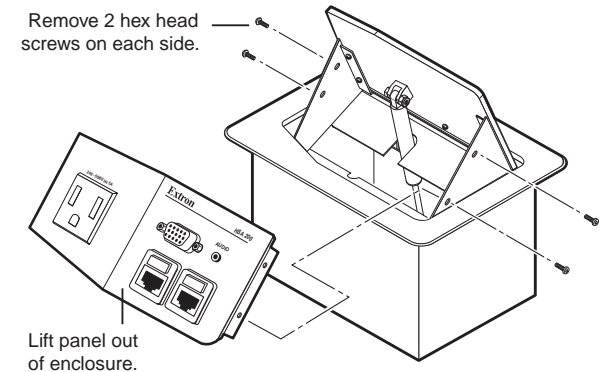

Figure 3-6 — Front panel removal (HSA 200 models)
6. **(HSA 200 models only)** Remove the four 1/16" hex head screws on the right and left sides of the front panel (figure 3-6). Retain the screws. Lift the panel away from the enclosure.
NOTE Figure 3-6 shows an HSA 200 model. Removing the front panel from an HSA 222 is an identical procedure.